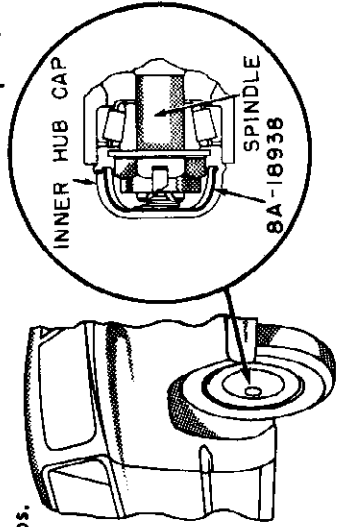

Figure 6
6. Remove inner and outer hub caps from each front wheel. Clean inner cups and spindles. Snap Static Collector Springs (Part No. 8A-18938) in inner hub caps (see figure 6). **IMPORTANT:** BEND COTTER KEY AWAY FROM SPINDLE CENTER HOLE SO THAT IT WILL NOT INTERFERE WITH STATIC COLLECTOR. Replace inner and outer hub caps.